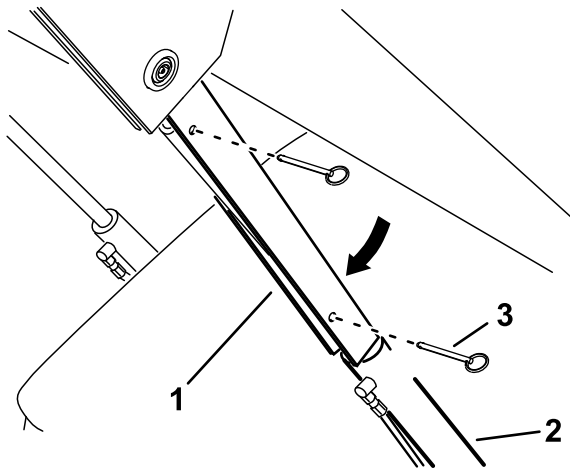

Figure 32
5. Slide the cylinder lock over the lift-cylinder rod (Figure 32).